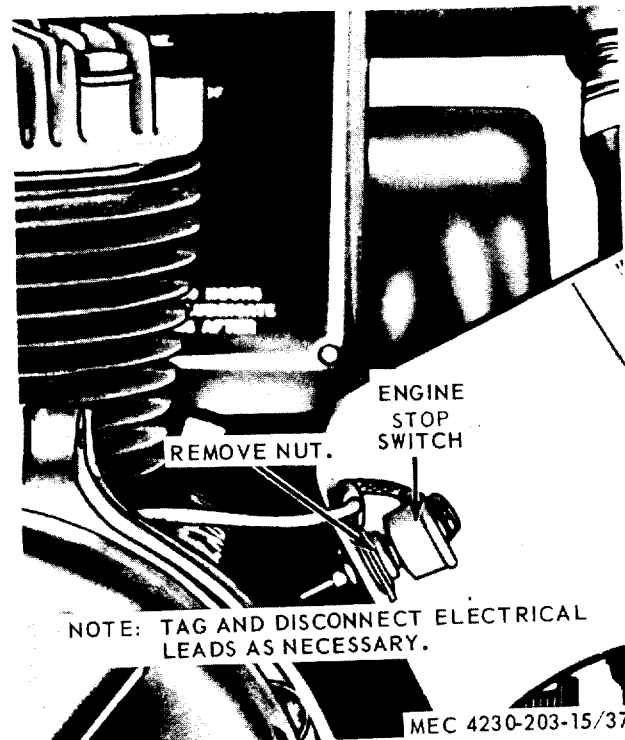

Figure 4-21. Engine stop switch, removal and installation.
- (1) Remove the flywheel housing (para 4-11).
- (2) Refer to figure 4-21 and remove the engine stop switch.
- (1) Refer to figure 4-21 and install the switch.
- (2) Install the flywheel housing (para 4-11).